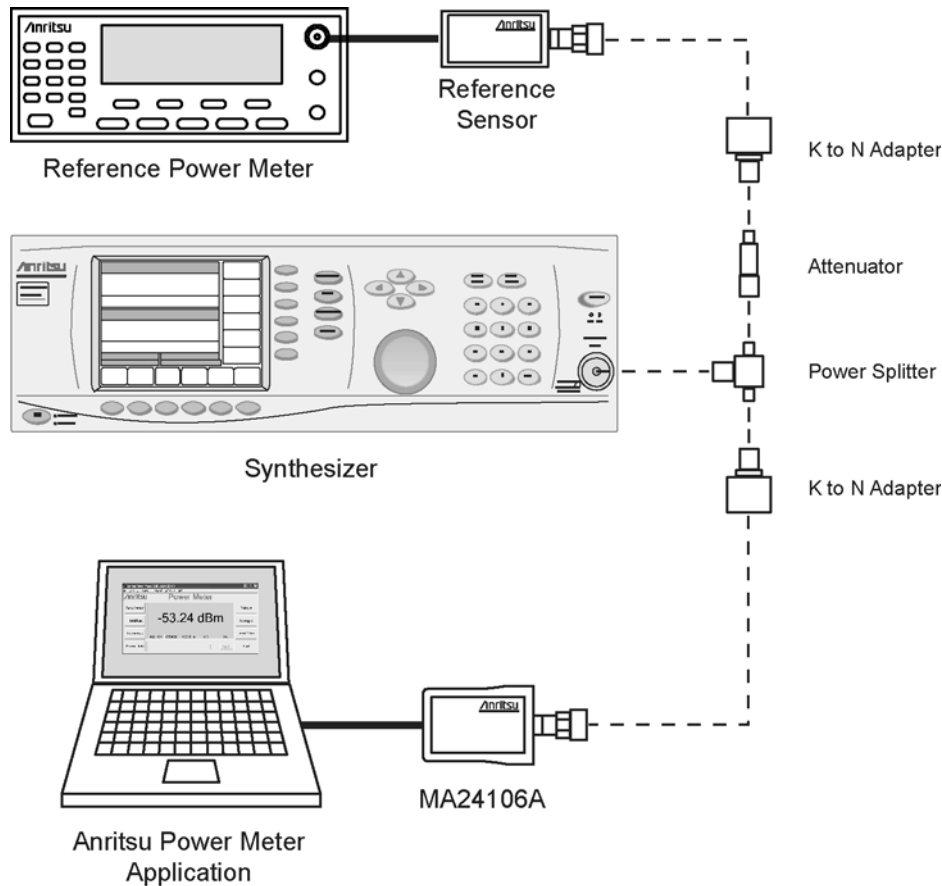

Figure 5-2. Linearity Test Setup
1. Set up the equipment as follows (refer to Figure 5-2 for an illustration):